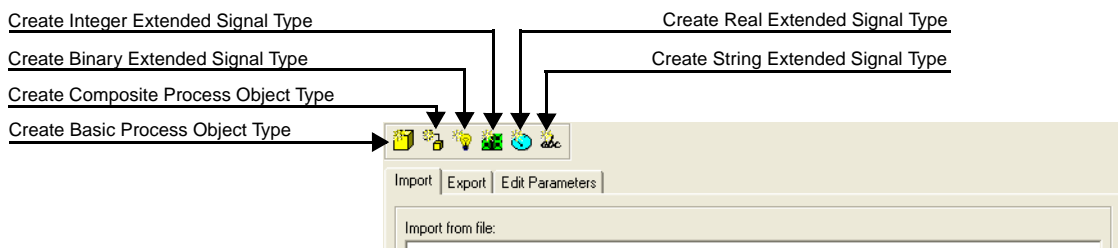

Figure 2. Generic Control Network Configuration Aspect
3. Select the Generic Control Network Configuration aspect. You use this aspect, see also Figure 2, when you want to create new process object or signal types.